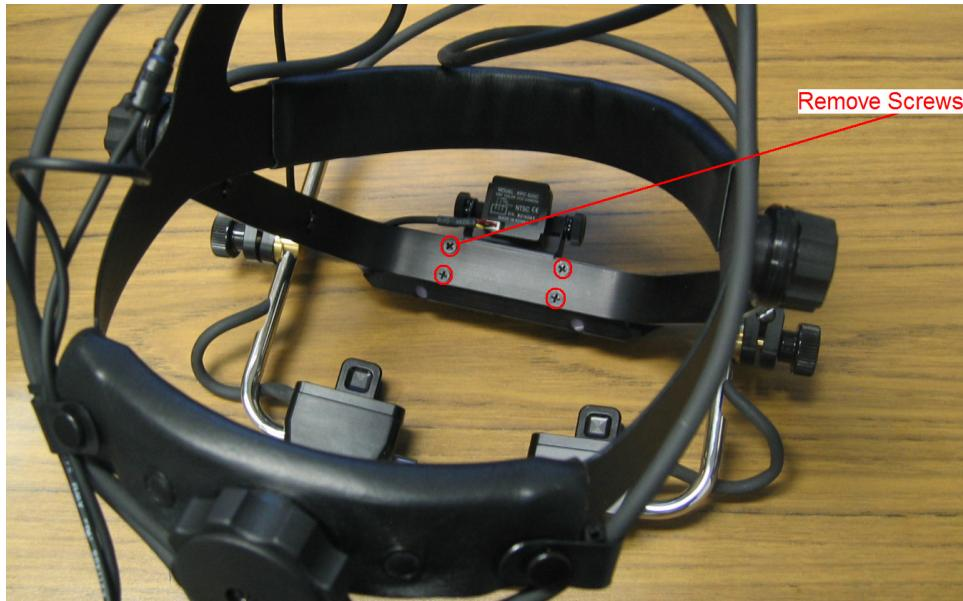

Figure 3-1: Remove Screws on the Head Camera Bracket
- Use an SR Research supplied screwdriver to remove the four screws on the head camera bracket (see Figure 3-1).